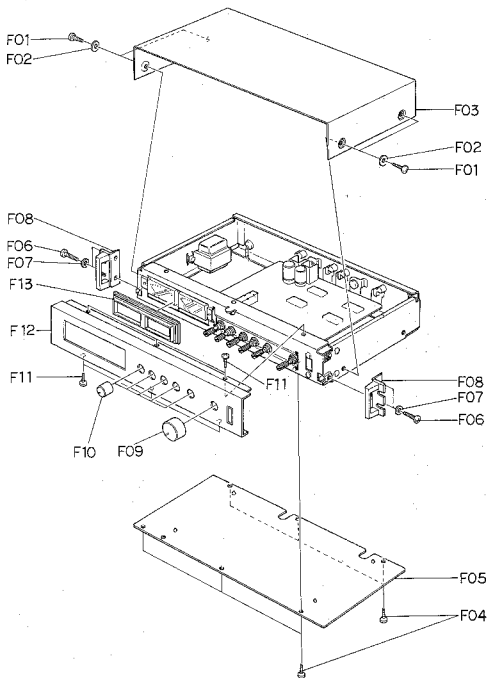

Fig. 3.1
- (1) Refer to Fig. 3.1. Remove Front Panel Ass'y referring to item 3.4.
- (2) Remove the connector and wires connected by wrapping from F02 (Main P.C.B. Ass'y).
- (3) Remove F01, then disassemble F02 (Main P.C.B. Ass'y).
- (1) Refer to Fig. 3.1. Remove Top Cover Ass'y referring to item 3.1.
- (2) Remove F03 and F04, then disassemble F05 (Power Transformer).
- (2) Remove F06, then disassemble F07 (Meter Ass'y).
- (3) Remove F08 (Meter Band), then disassemble F09 (Meter).
- (4) Remove F10, then disassemble F11 (Lamp P.C.B. Ass'y).
- (2) Remove F12, F13 (Power Switch Flange) and F14, then disassemble F15 (Power Switch).
- (1) Refer to Fig. 3.1. Remove Top Cover Ass'y and Bottom Cover Ass'y referring to items 3.1 and 3.2.
- (2) Remove F01, then disassemble F02 (Rear Panel Ass'y).
- (2) Pull out F03 (Volume Knob). Remove F04 and F05, then disassemble F06 (Volume 10 K Ω (B)) and F07 (Volume 50 K Ω (B)).
- (3) Remove F08, then disassemble F09 (2P Pin Jack).
Refer to Fig. 3.1. Remove F01 and F02, then disassemble F03 (Top Cover Ass'y).
Refer to Fig. 3.1. Remove F04, then disassemble F05 (Bottom Cover Ass'y).
Refer to Fig. 3.1. Remove F06 and F07, then disassemble F08 (Side Panel Ass'y).
(1) Refer to Fig. 3.1. Remove Top Cover Ass'y, Bottom Cover Ass'y and Side Panel Ass'y referring to items 3.1 through 3.3.
(2) Pull out F09 (Volume Knob A Ass'y) and F10 (Volume Knob B Ass'y). Remove F11, then disassemble F12 (Front Panel Ass'y).
(3) Remove F13 (Meter Escutcheon).